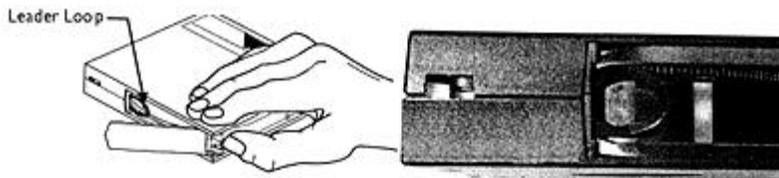

Figure 3: Opening the Door on a DLTape Cartridge Showing Tape Leader Loop in its Correct Position
6. Ensure that the tape leader within the tape cartridge is in the correct position. To do this, you must open the tape cartridge door. Refer to Figure 3. Open the door by holding the DLTape cartridge as shown in Figure 3.
On the right side corner of the tape cartridge there is a small tab in a cut-out portion of the cartridge. Using your thumb, gently lift up on the tab and swing the door open (Figure 3).